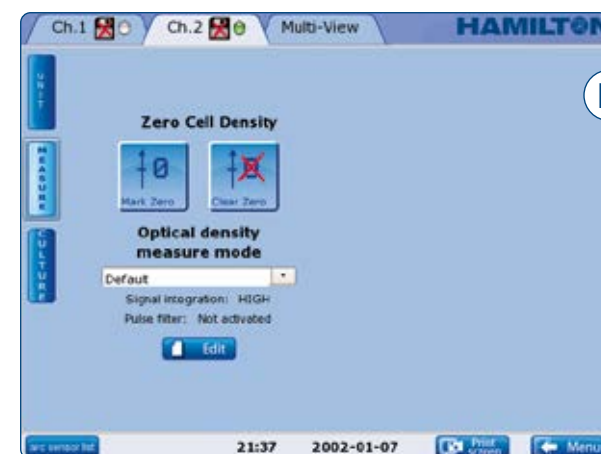

Figure 15: Measure Settings Menu of Incyte (A) and Dencyte (B).
In the Measure Settings Menu (Figure 15) all relevant adjustments for the bioprocess may be set. In Measure Settings Menu it is possible to
- Go to the Measure Settings Menu (Figure 15). Choose the measurement mode, from the predefined settings: